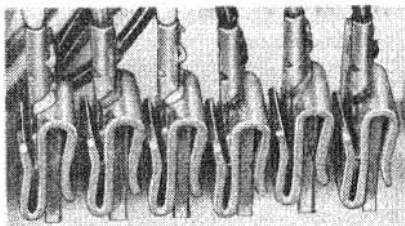

Fig. 12—Typical Installation of 161A Adapter on 66E-Type Connecting Block
4.02 Position the adapter over the terminal and press it onto the terminal as far as possible. Insert the spade tip and seat it firmly in the adapter. Figure 12 shows the adapter and spade tip installed.
4.03 When 161A adapters are used on adjacent connectors, the adapters should be oriented so that possible shorting between connectors is avoided. Figure 12 shows proper and improper